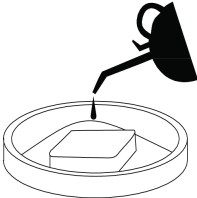

Figure 14
8. Once the air filters are dry, coat the air filters with clean engine oil (see Figure 14 below).